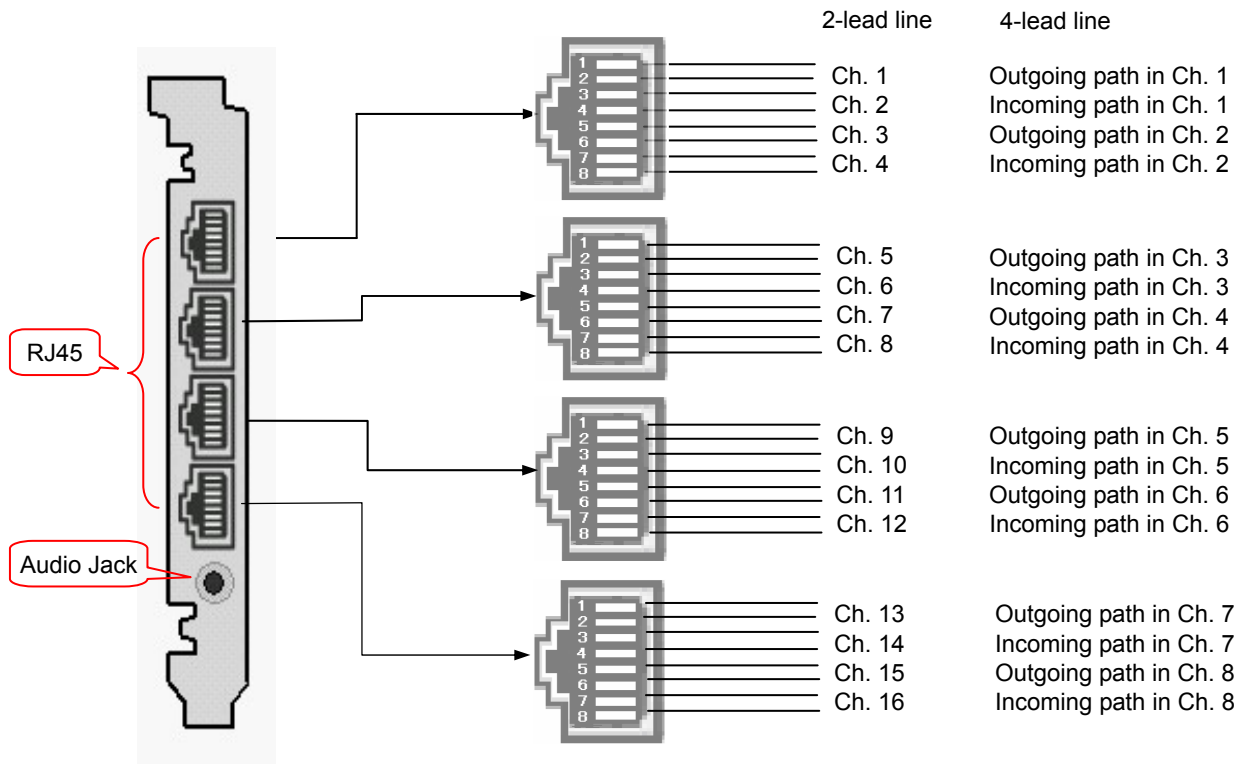

Figure 2-3 Left Side
The SHR-16DA-CT/PCI digital station tap board has four 8-pin RJ45 jacks, each of which leads to four channels and can be converted into four 2-pin RJ11 jacks. See Figure 2-3 for the physical layout of the jack.
1. When 2-lead lines are used, as shown in Figure 2-3, each adjacent 2 pins from the top down in successive RJ45 heads correspond to one channel.